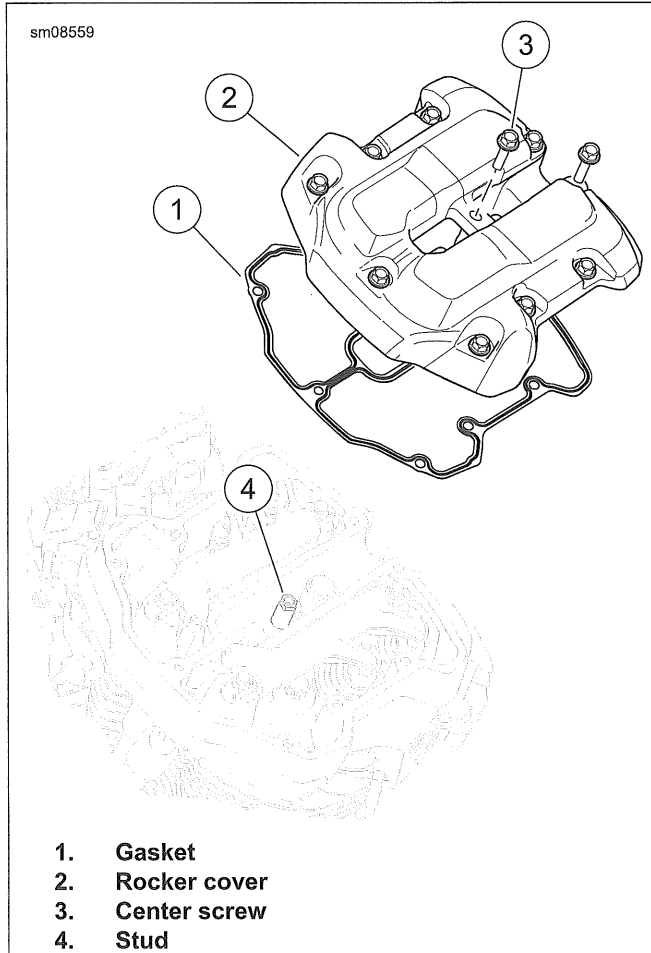

Figure 4-18. Rocker Cover Screws
1. See Figure 4-18. Remove the rocker cover screws.
- a. Hold hex on stud (4).
- b. Remove center screw (3).
2. Remove the rocker cover (2) and gasket (1) from right side of vehicle. Discard gasket.